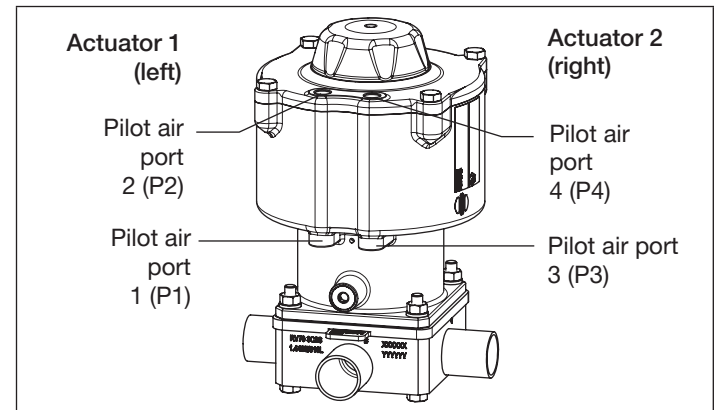

Fig. 23: Actuator assignment
2) Actuator assignment see "Fig. 23: Actuator assignment"